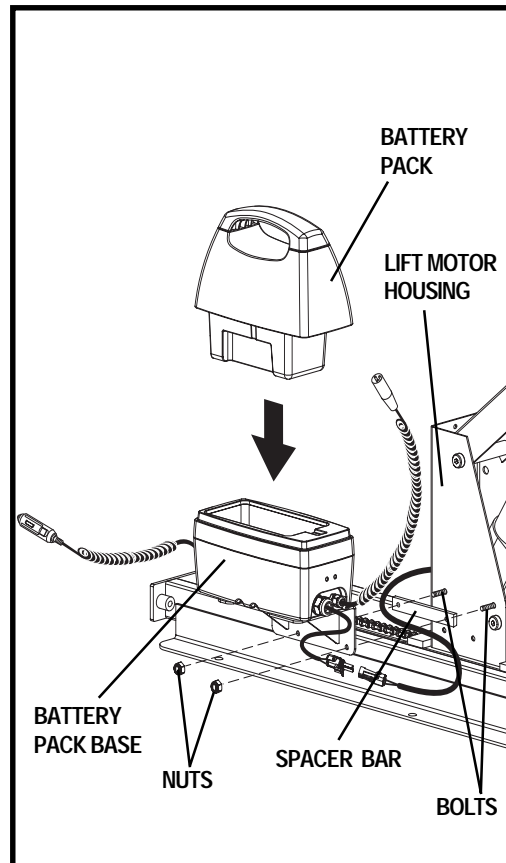

Figure 2. Battery Pack Installation
1. Remove the rubber caps and nuts from the protruding bolts on the side of the lift motor housing. See figure 2.
2. Remove the spacer bar. See figure 2.
3. Mount the battery pack base onto the protruding bolts and secure into position with the nuts removed earlier. See figure 2.